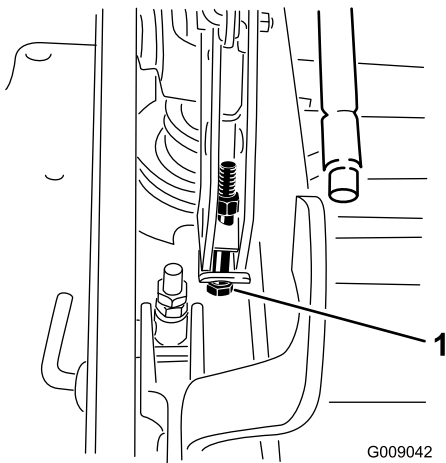

**Figure 85**
12. To adjust the single point system, loosen the two bolts at the bottom of the height of cut plate. Refer to Figure 85.
14. Tighten the two bolts at the bottom of the height of cut plate (Figure 85). Torque to 27-33 ft-lb (37-45 N-m).